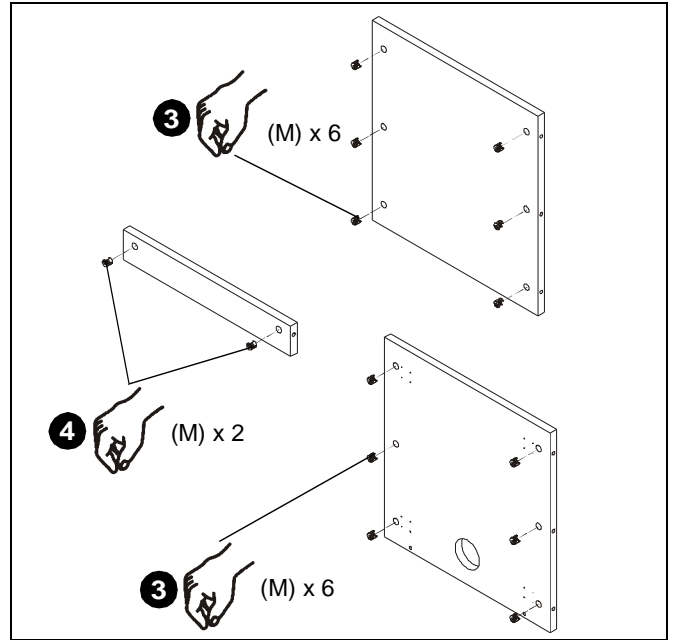

Figure 3
3. Install six cams (M) into holes on rack top (C) and rack bottom (D). (See Figure 3)
4. Install two cams (M) into holes on back support (F). (See Figure 3)